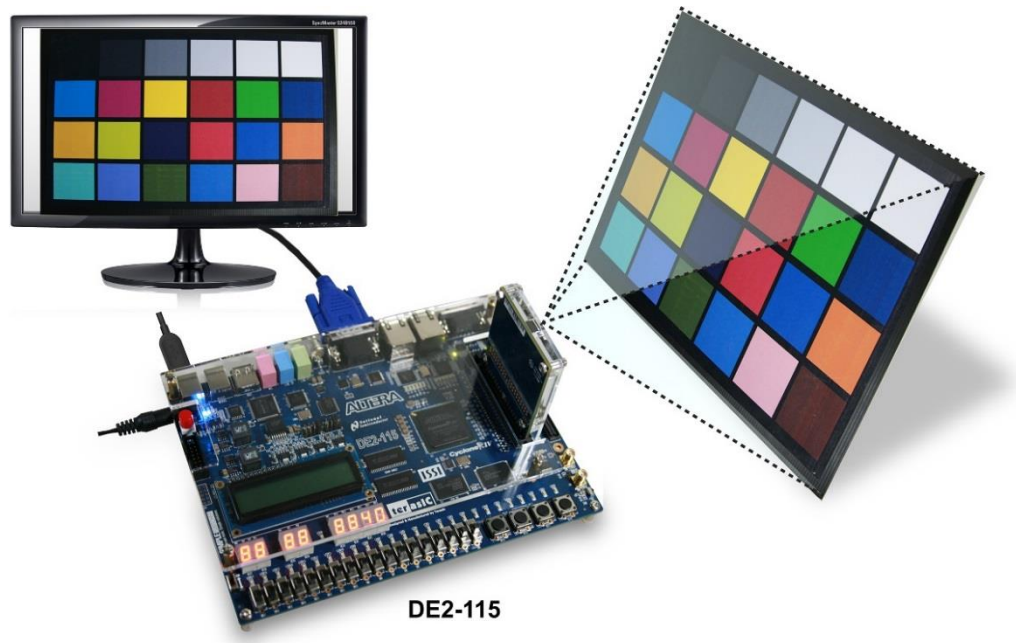

Figure 4-3 DE2-115 demo hardware setting up
As shown in Figure 4-3
- Plug D8M onto DE2-115 JP5 (GPIO), connect VGA monitor to J13 (VGA) see Figure 4-3.